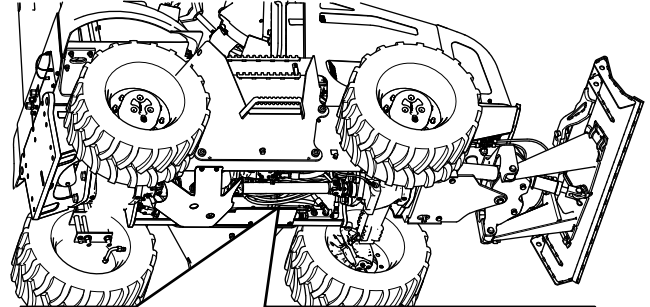

Figure 57
2. Connect the grease gun to the grease fitting for the slide coupling at the forward end of the drive shaft, and apply 2 or 3 pumps of grease to the fitting (Figure 57).
3. Connect the grease gun to the grease fitting for the universal joint at the forward end of the drive shaft, and apply 2 or 3 pumps of grease to the fitting (Figure 57).
4. Connect the grease gun to the grease fitting for the universal joint at the back end of the drive shaft, and apply 2 or 3 pumps of grease to the fitting (Figure 57).